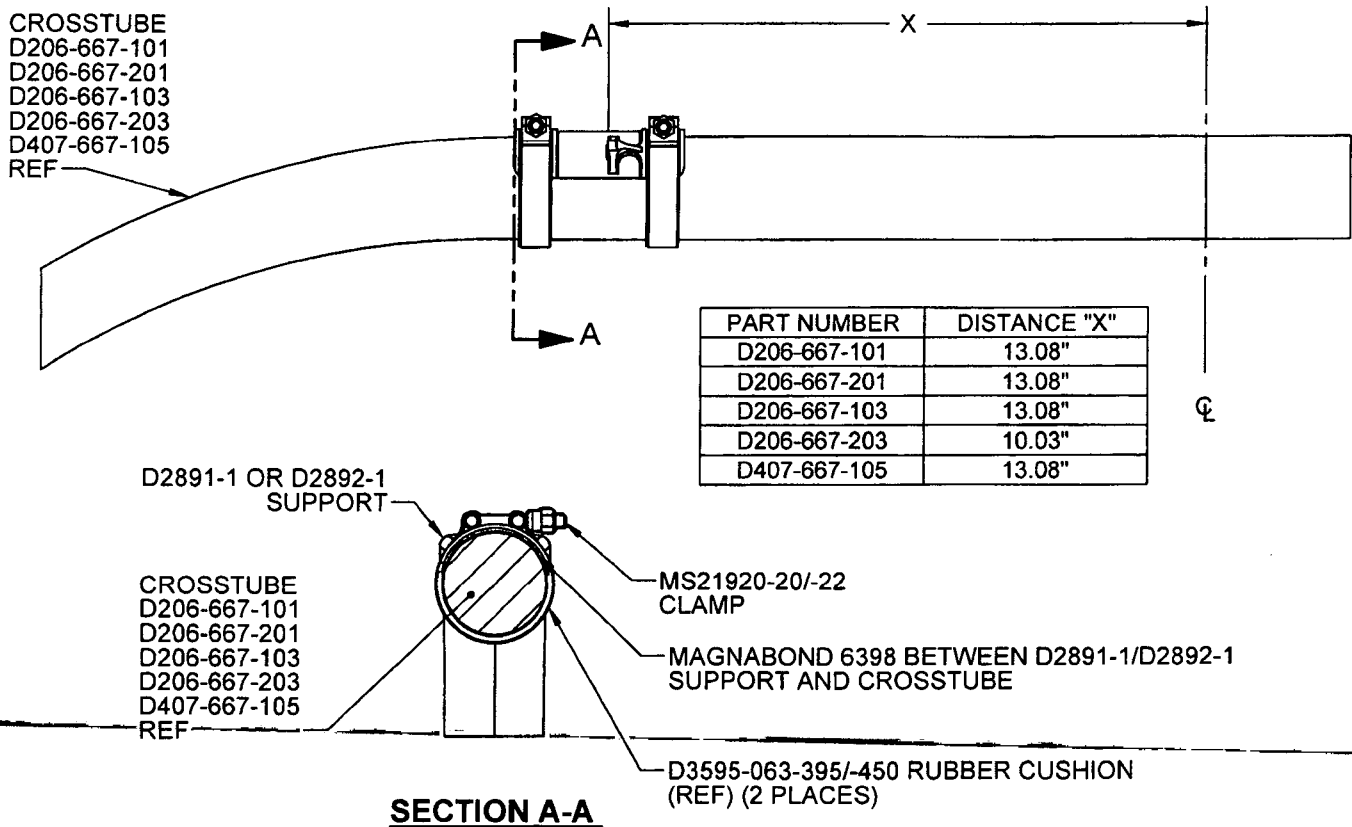

FIGURE 1 - CROSSTUBE SUPPORT
- Remove the qty (2) MS21920-20/-22 clamps from the crosstube that fasten the D2891-1/D2892-1 supports to the crosstube.
- Inspect the crosstube surface underneath the support for corrosion and mechanical damage per items 5.3.1 and 5.3.2 of the 300 hour inspection of ICA-D206-667. Repair damage within acceptable limits per item 5.3.3 of the 300 hour inspection in ICA-D206-667. Touch up finish per item 5.3.9 of the 300 hour inspection.
- Apply a 0.03" to 0.06" thick layer of Magnabond 6398 underneath the D2891-1/D2892-1 support and re-install the support on the crosstube as shown in Figure 1. Position and secure the D2891-1/D2892-1 support on the crosstube using MS21920-20/-22 Clamps. Install a D3595-063-395/-450 Rubber cushion underneath each MS21920-20/-22 Clamp. Torque clamps 80-100 in-lb. Let the D206-667-101/-201/-103/-203 or D412-667-105 crosstube assembly cure as per the Magnabond 6398 instructions before re-installing the crosstube on the aircraft.